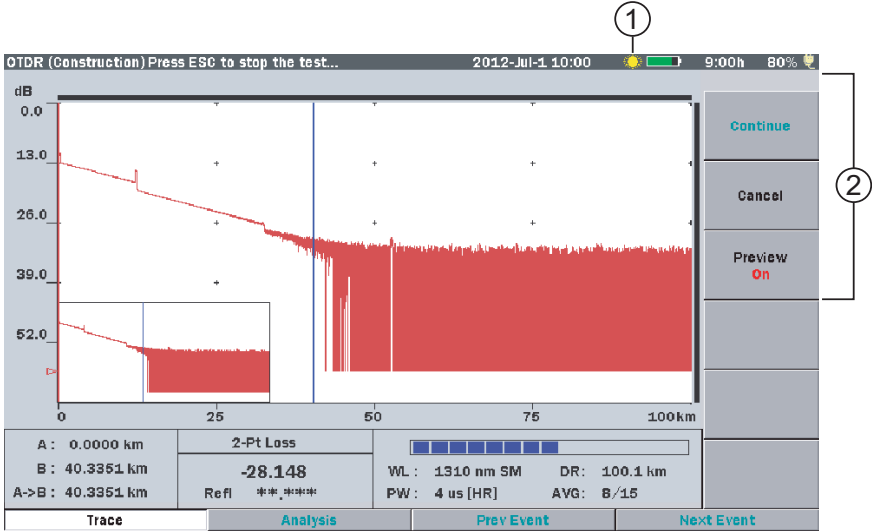

Figure 6-19: Test in Progress screen – OTDR (Construction) mode
When a test has been started, Construction mode enters Analysis mode, displaying the Test in Progress screen (see Figure 6-19).
The flashing Laser On icon (item 1 in Figure 6-19) appears whenever a laser is firing. In OTDR (Construction) mode, the Laser On icon appears on the Test in Progress screen only.
The OTDR (Construction) Test Results screen appears at the end of each test, providing that **Preview (F3)** is set to “On” on the Test in Progress screen (see Figure 6-19 on page 6-49).